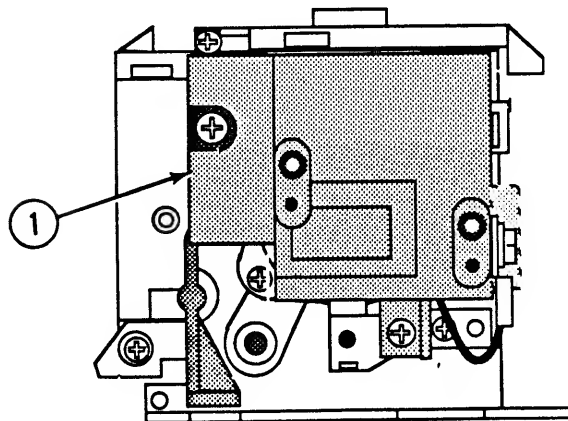

FIGURE 19
6. Place the left terminal mount (Figure 19, #1) in position and replace the three Phillips screws.